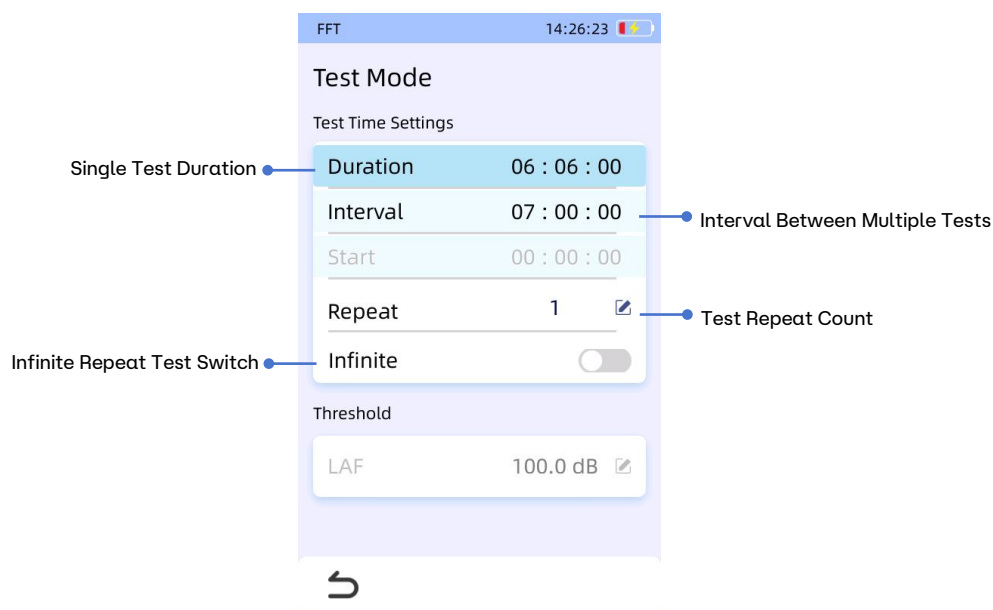

Fig 6.59 Automatic Mode Parameter Settings
- b. Automatic Mode: When the user clicks the start test button on the main interface, the application will automatically conduct the first test according to the duration set by the user. After the first test ends, a second round of testing will occur after the user-defined interval, and this process will repeat. The number of repetitions indicates how many times the test is conducted and is also set by the user. When the repeat test is set to 1, only one test (i.e., the first test) will be conducted. If the user enables the infinite repeat option, the automatic test will continue indefinitely until the user manually stops it. After selecting automatic testing, the Test Mode Settings interface will appear as shown in Figure 6.59, and the start testing time is not editable in this mode.